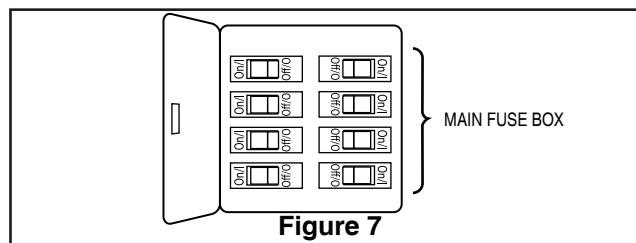

Figure 7
- ☐ 6. Lift the fan off the hanger bracket hook and mount your fan by sliding the ceiling canopy over the mounting bracket with the two loosened screws going into the "L" slots in the canopy. Be sure all wiring is tucked into the ceiling canopy and is not pinched. Once the canopy is flush with your ceiling, turn clockwise to seat the screws into the keyed portion of the slot. Tighten the screws. (Figure 7)
To avoid possible fire or shock, be sure electricity is turned off at the main fuse box before hanging. (Figure 7)